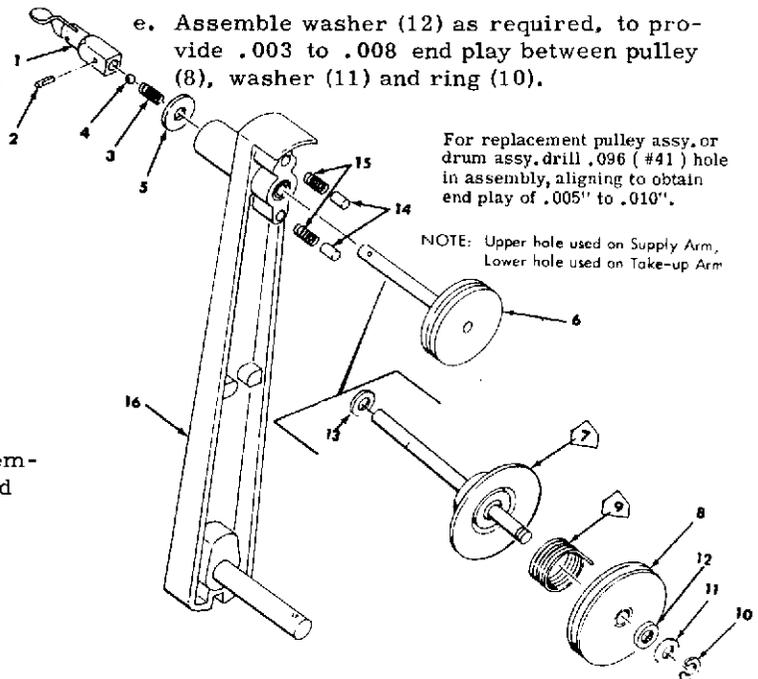

Figure 3-19. SUPPLY AND TAKE-UP REEL ARMS COMPLETE
7. Arm Complete, Supply & Take-Up (Fig.3-19)
- a. Drum assembly (7) or pulley (6) must have .005 to .010 end play after assembly.
- b. Clutch (9) must not be nicked during assembly.
- c. Spindle (1) must rotate with smooth brake torque of 2.5 to 4.5 in. oz. after assembly. This does not apply to F.F. take-up.